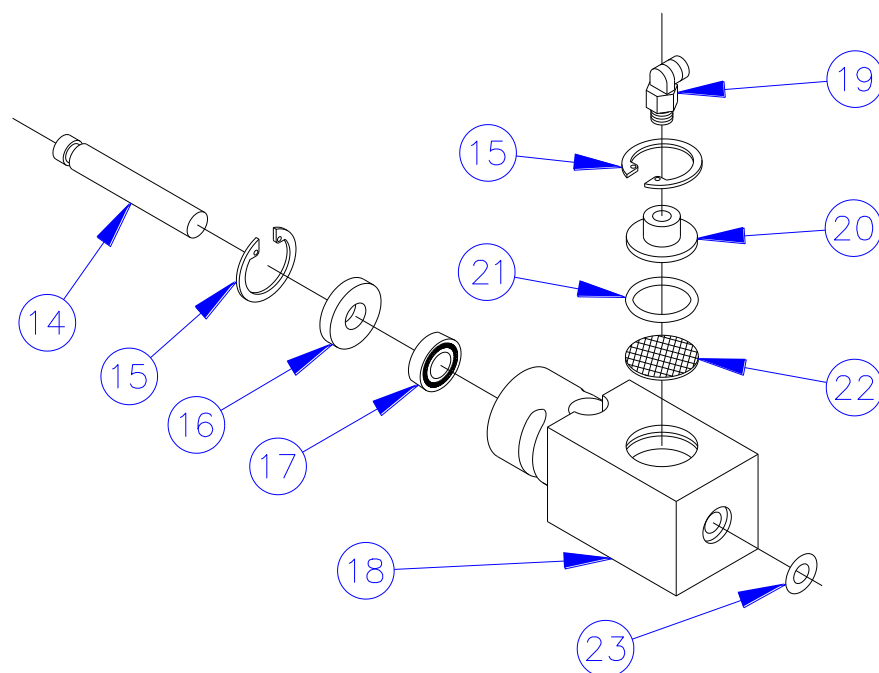
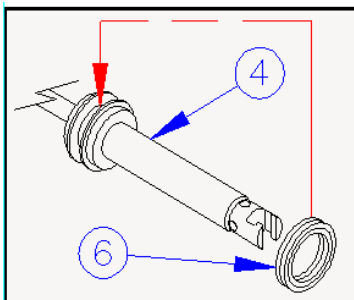
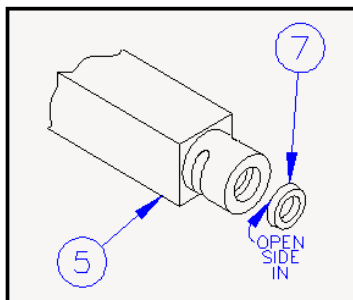
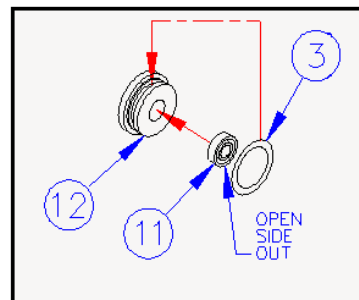

Figure 8. Wet Head Components. *The Wet Head section of the 1230 dispense valve has a small number of components which makes maintenance easy.*
Figure 9. Rod Assembly Seal Installation
Figure 10. Power Head Seal Installation
Figure 11. Diaphragm Seal Installation
To disassemble the Wet Head Section follow these steps. It is necessary to remove the air line from the diaphragm barb fitting. Refer to figure 8 for part orientation.
Inspect the metering rod (#14 Fig.8), replace if there are any surface imperfections on the metering rod.
Install one High Pressure “Quad” Seal (6) onto the Rod Assembly (4) as shown in figure 9. Install the other “U” Cup (7) into the groove on the inside of the Power Head Body, with the open side of the “U” Cup Seal facing in, as shown in figure 10. Likewise, using a seal installation tool or small screwdriver with no sharp edges, install the smaller “U” Cup Seal (11) into the groove on the inside of the Insert (12) with the open side of the “U” Cup Seal facing out, and then install the “O” Ring (3) on the outside of the Insert, as shown in figure 11. After installation, lubricate the outside of the “U” Cup Seals with a liberal amount of KRYTOX® lubricant (included in the Seal Kit). Assemble item in the reverse order per figure 8.